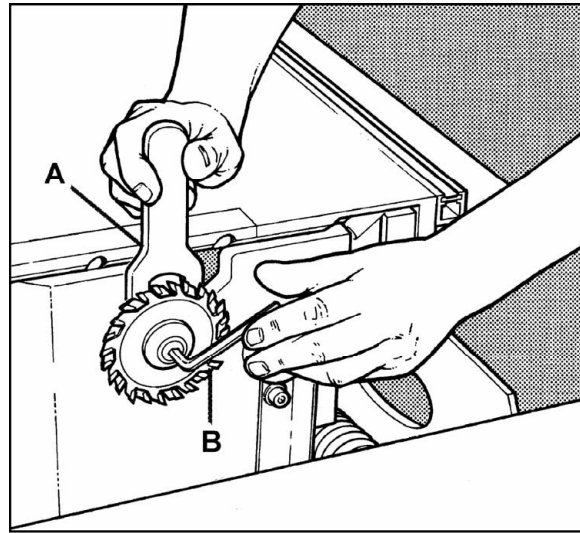

Figure 11
2. Tilt scoring blade arbor to the left, and place open end flat wrench (A, Figure 11) on the flat of the arbor.
3. Remove socket head cap screw with the hex wrench (B, Figure 11). NOTE: Left hand threads – turn clockwise to loosen.